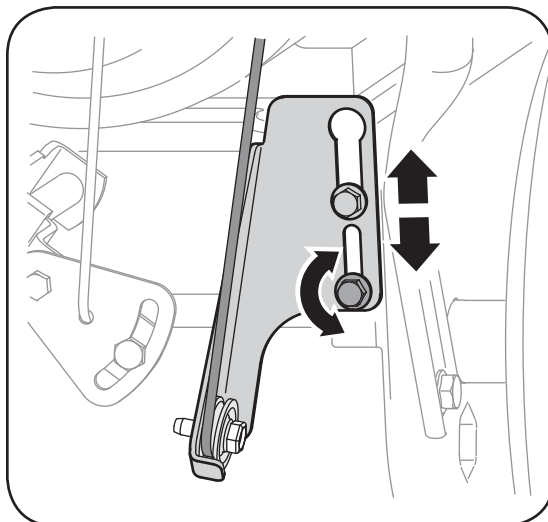

Figure 5-3
5. Loosen the lower hex nut on the drive cable bracket. See Figure 5-3.
4. If adjustment is necessary, loosen the lower hex nut on the drive cable index bracket and pivot the bracket upward or downward as necessary. Refer to Figure 5-3. Tighten the lower hex nut to secure the bracket when correct adjustment is reached.